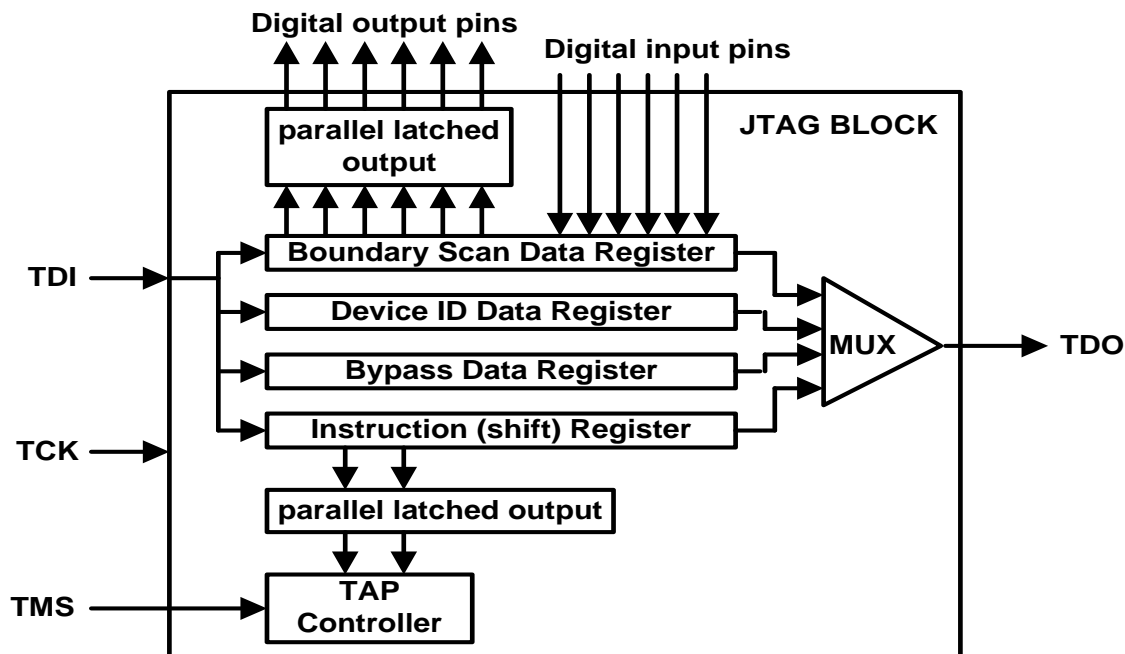

Figure 15. Test Access Port Architecture
The CS61884 supports the IEEE Boundary Scan Specification as described in the IEEE 1149.1 standards. A Test Access Port (TAP) is provided that consists of the TAP controller, the instruction register (IR), by-pass register (BPR), device ID register (IDR), the boundary scan register (BSR), and the 5 standard pins ($\overline{\text{TRST}}$, TCK, TMS, TDI, and TDO). A block diagram of the test access port is shown in Figure 15. The test clock input (TCK) is used to sample input data on TDI, and shift output data through TDO. The TMS input is used to step the TAP controller through its various states.